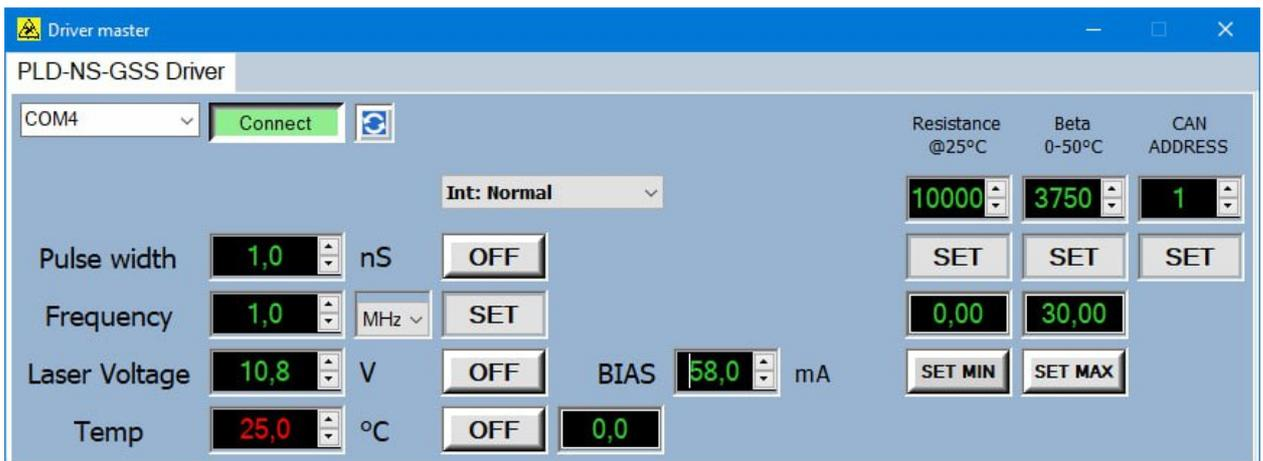

Figure 2: Interface
6. The 'Connect' button will change the color to green and the driver management interface will appear (fig. 2).